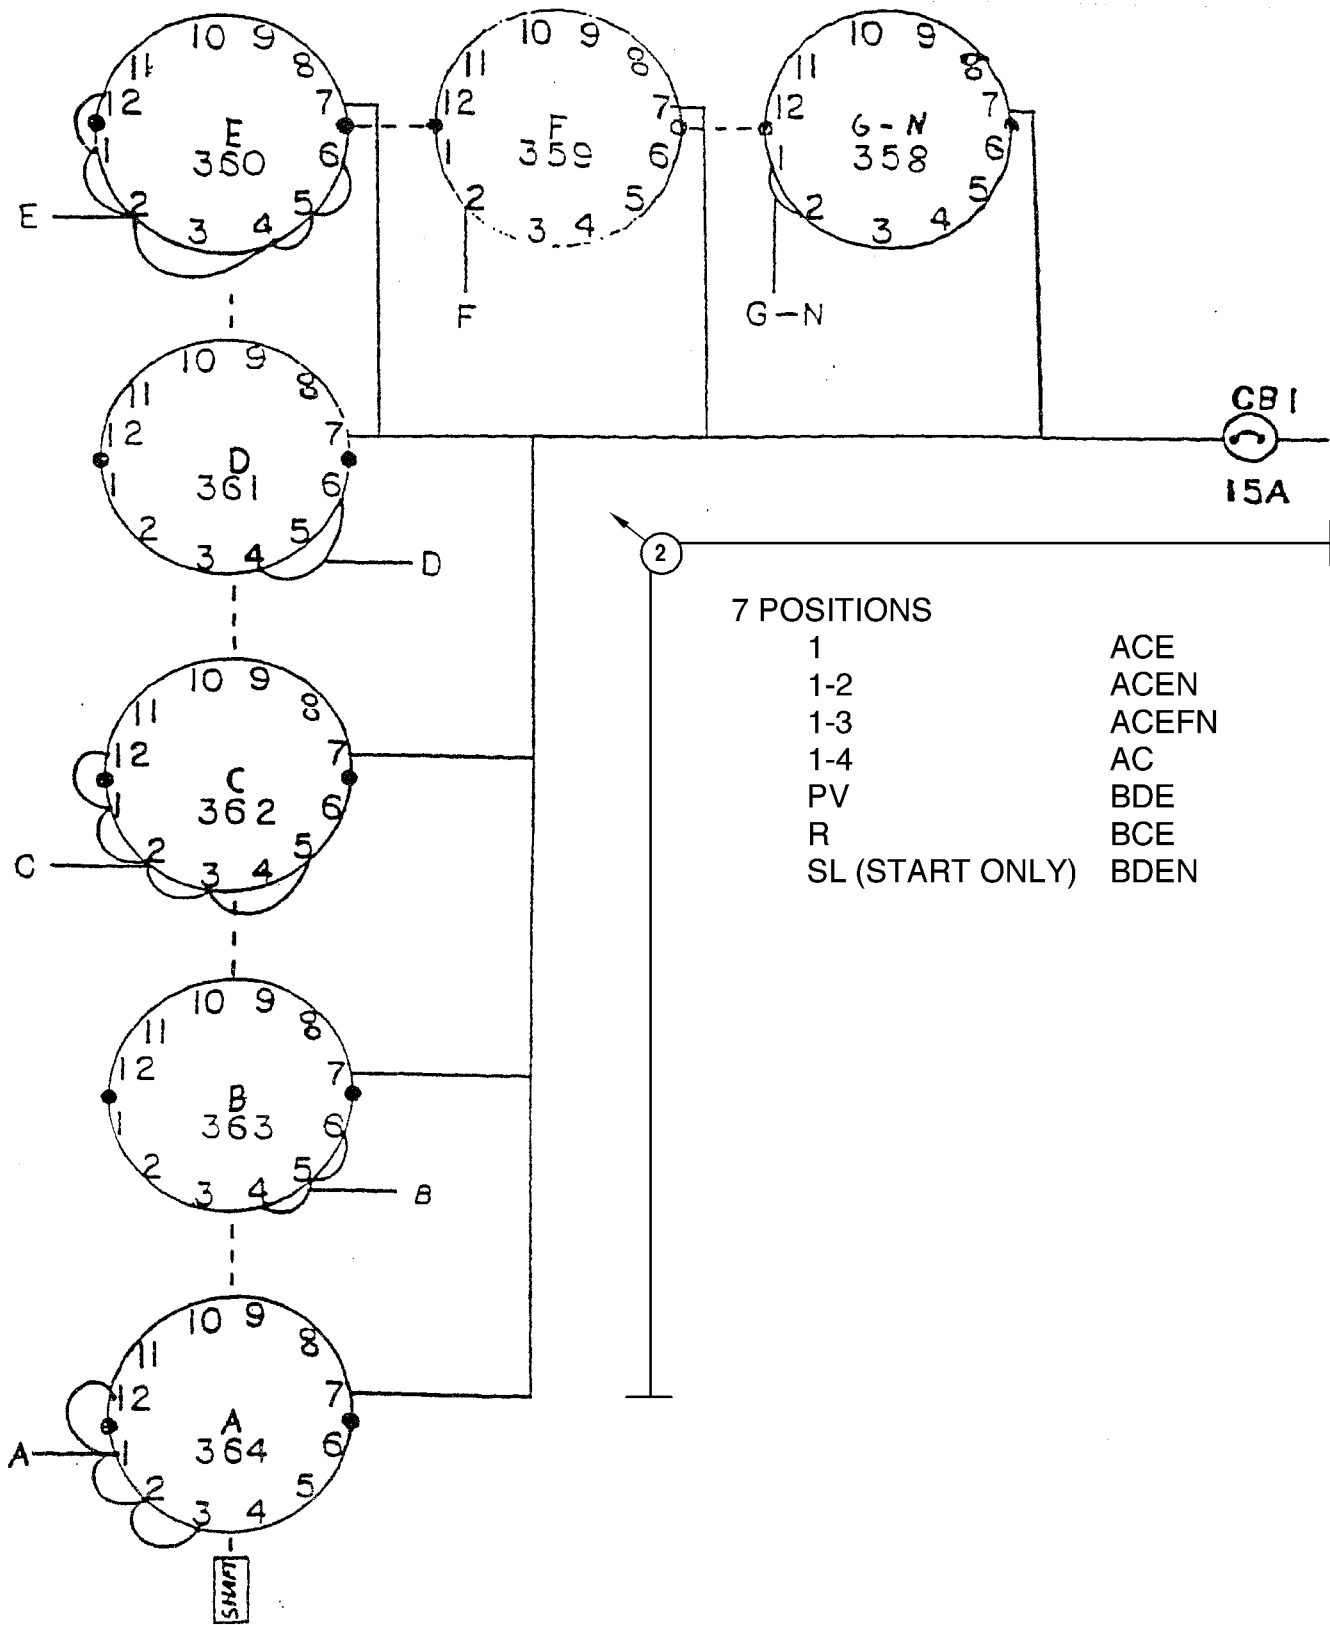

Figure 2-19. Transmission Controller
An M113A3 shift controller (NSN 3010-01-331-2675 or NSN 3010-01-245-2442) can be attached to the instrument panel and used in lieu of fabricating the controller pictured in Figure 2-19. However, use the schematic to troubleshoot the system.
1. Assemble seven rotary switch section (2) starting with 364/A. Put the remaining six in numerical/alphabetical order. See Figure 2-19.
2. Solder a lead long enough to reach circuit breaker number 1 and connect all pins seven connectors together. See Figure 2-19.
3. Solder a lead on the first rotary switch section (2), connecting pins 12, 1, 2, 3, and long enough to reach the connector on the side of panel. Label this lead, A.
4. Solder a lead on the second rotary switch section (2), connecting pins 4, 5, 6, and long enough to reach the connector on the side of panel. Label this lead, B.
5. Solder a lead on the third rotary switch section (2), connecting pins 12, 1, 2, 3, 5, and long enough to reach the connector on the side of panel. Label this lead, C. Insulate lead from pin 4.
6. Solder a lead on the fourth rotary switch section (2), connecting pins 4, 6, and long enough to reach the connector on the side of panel. Label this lead D. Insulate lead from pin 5.
7. Solder a lead on the fifth rotary switch section (2), connecting pins 12, 1, 2, 4, 5, 6, and long enough to reach the connector on the side of panel. Label this lead, E. Insulate lead from pin 3.
8. Solder a lead on the sixth rotary switch section (2), connecting pin 2 and long enough to reach the connector on the side of panel. Label this lead, F.
9. Solder a lead on the seventh rotary switch section (2), connecting pins 1, 2, and long enough to reach the connector on the side of panel. Label this lead, G-N.
10. Test transmission controller after all connections have been made using multimeter. See table in Figure 2-19.